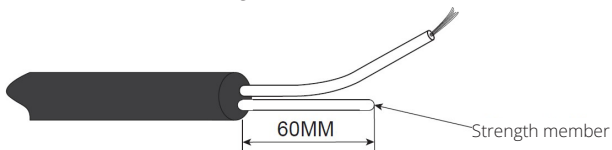

Figure 1-25: Strength member
- 4 Cut the strength member of the cable from the stripped cable sheath 2.4 in. (60 mm) to fix the cable (Figure 1-25).